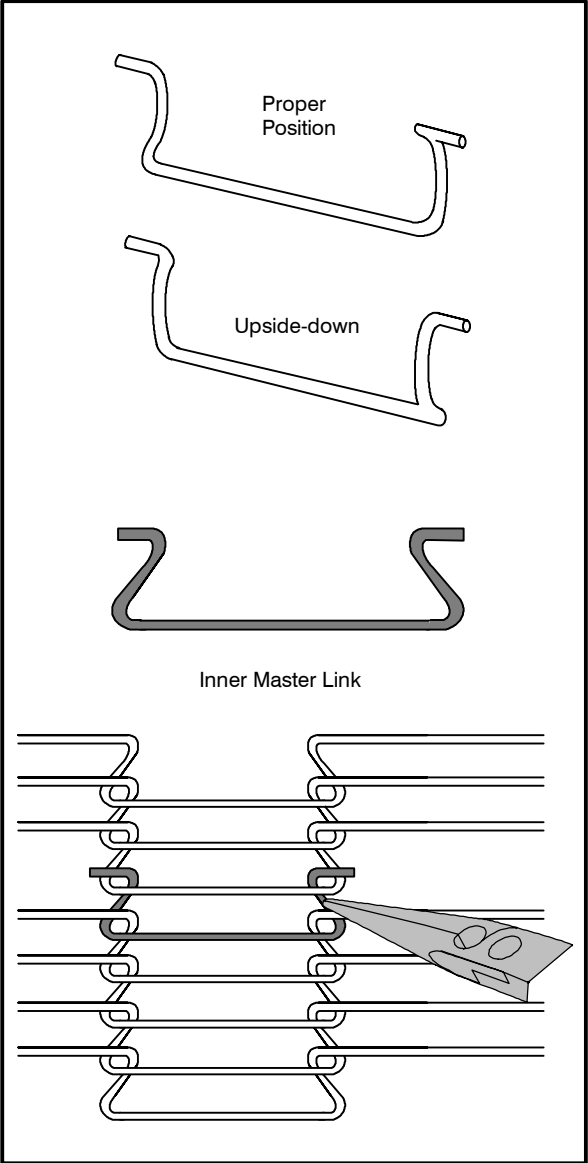

Figure 12
6. Install the inner master links to connect the two ends of the conveyor belt. See Figure 12.